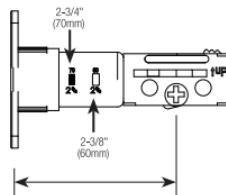

Figure 1c
- Rotate the cylinder cover so that the marking aligns with the 2-3/4" (70mm) position indicator (Figure 1c).